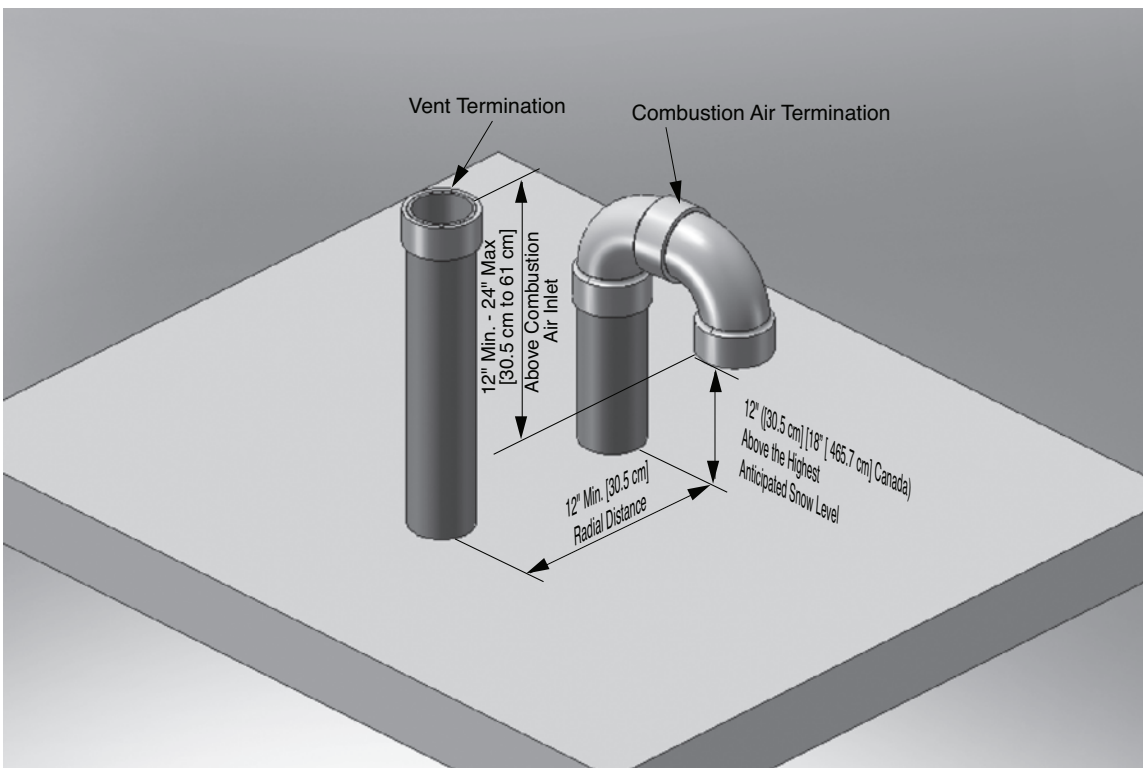
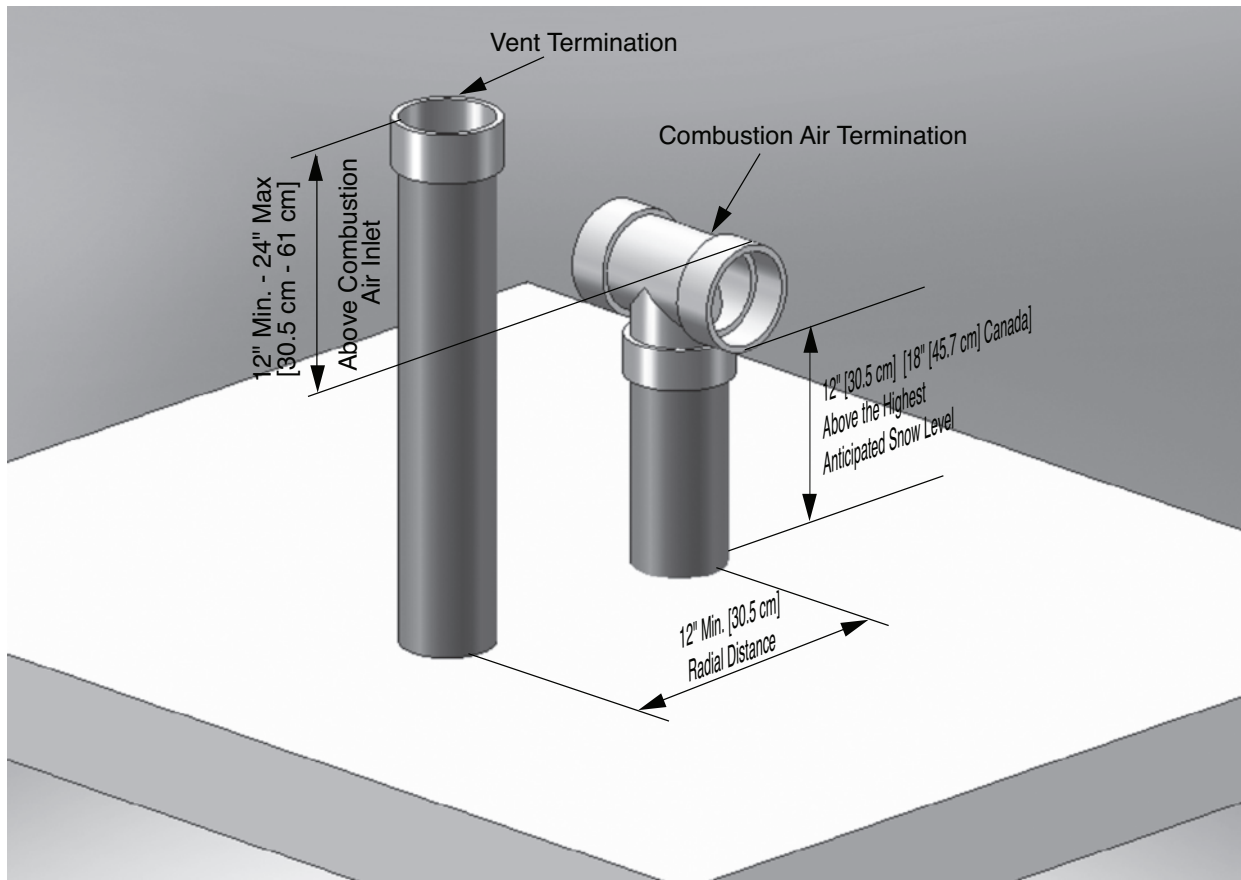

Fig. 1: Direct Vent - Vertical Termination of Vent and Combustion Air Piping
Fig. 2: Direct Vent - Vertical Termination of Vent and Combustion Air Piping
2. The combustion air piping must terminate in an upside down "U" shape fashion using two 90° elbows as shown in Fig. 1 on page 9 or with a tee as shown in Fig. 2 on page 9. The termination must be installed 12" [30.5 cm] (18" [45.7 cm] Canada) above the highest anticipated snow level.
3. The vent must terminate vertically with a coupling to accept the bird screen and must be located 12" to 24" [30.5 cm to 61 cm] above the combustion air inlet as shown in Fig. 1 & Fig. 2 on page 9.
4. The vent and combustion air terminations must be located a radial distance of 12" to 24" [30.5 cm to 61 cm] from centerline of vent termination to centerline of termination as shown in Figs. 1 & 2 on page 9.
3. Locate the vent and combustion air pipe penetrations to provide clearances as described in Figs. 1 & 2 on page 9.
2. The combustion air piping must terminate in an upside down "U" shape fashion using two 90° elbows as shown in Fig. 1 on page 9 or with a tee as shown in Fig. 2 on page 9.
3. The vent piping must terminate vertically with a coupling as shown in Figs. 1 & 2 on page 9.
Do not extend the vent pipe above the roof beyond the dimensions shown in Figs. 1 & 2 on page 9. Extended exposure of the vent pipe could cause condensate to freeze and block the vent pipe.